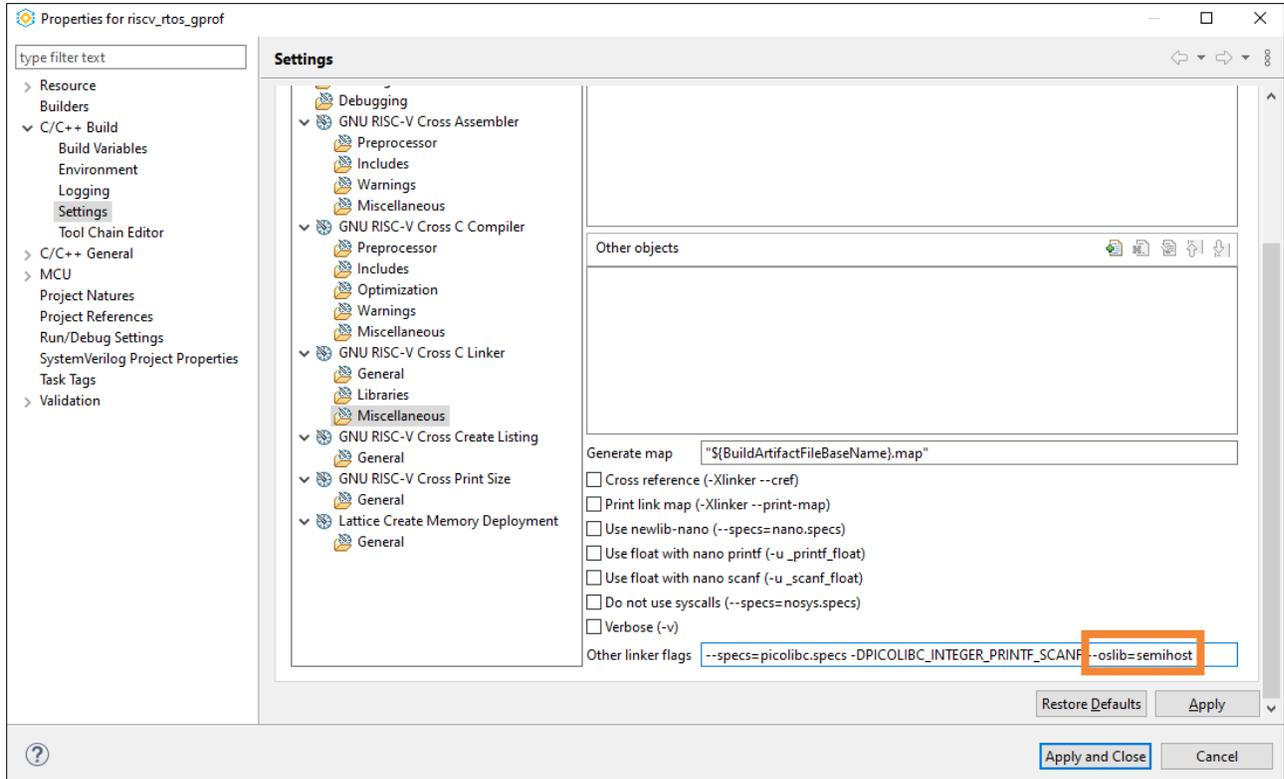

Figure 7.8. --oslib=semihost Linker Flag 2
6. Select **GNU RISC-V Cross C Linker > Miscellaneous**. Check link flags in the label, Other linker flags. Make sure the linker flag, `--oslib=semihost`, is supported (Figure 7.8).
6. Select **GNU RISC-V Cross C Linker > Miscellaneous**. Check link flags in the label, Other linker flags. Make sure the linker flag, --oslib=semihost, is supported (Figure 7.8).